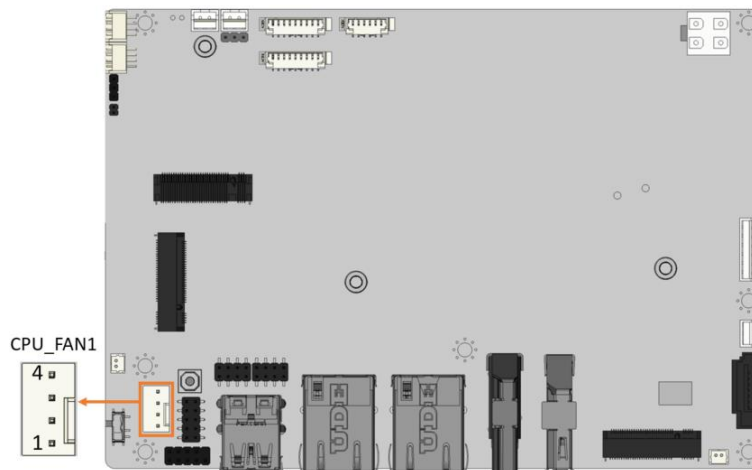

Figure 3-8: Fan Connector Location
- CN Location:** See **Figure 3-8**